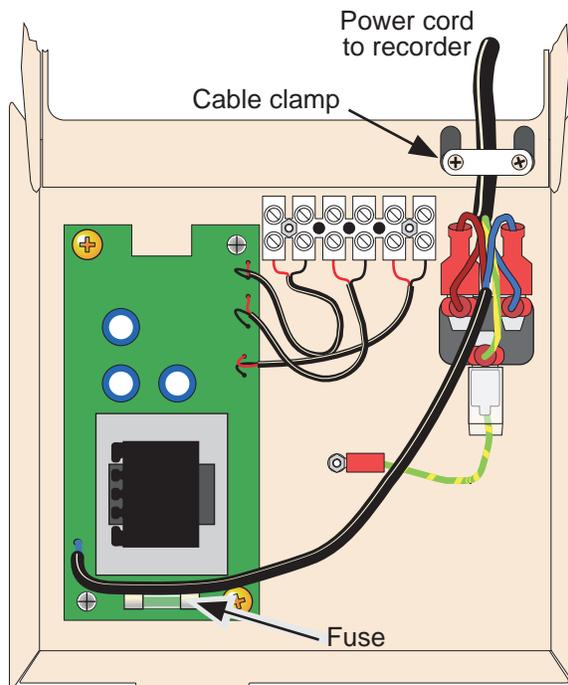

Figure 8.2.2b Inside the terminal cover
- 3 Open the cover to reveal the circuit board, user connections etc. (figure 8.2.2b)
- 4 The fuse is located as shown in figure 8.2.2b. User wiring to the terminal block (figures 8.2.3a/b) can be carried out now, or the terminal cover can be removed for convenience, as described in steps 5 onwards below.